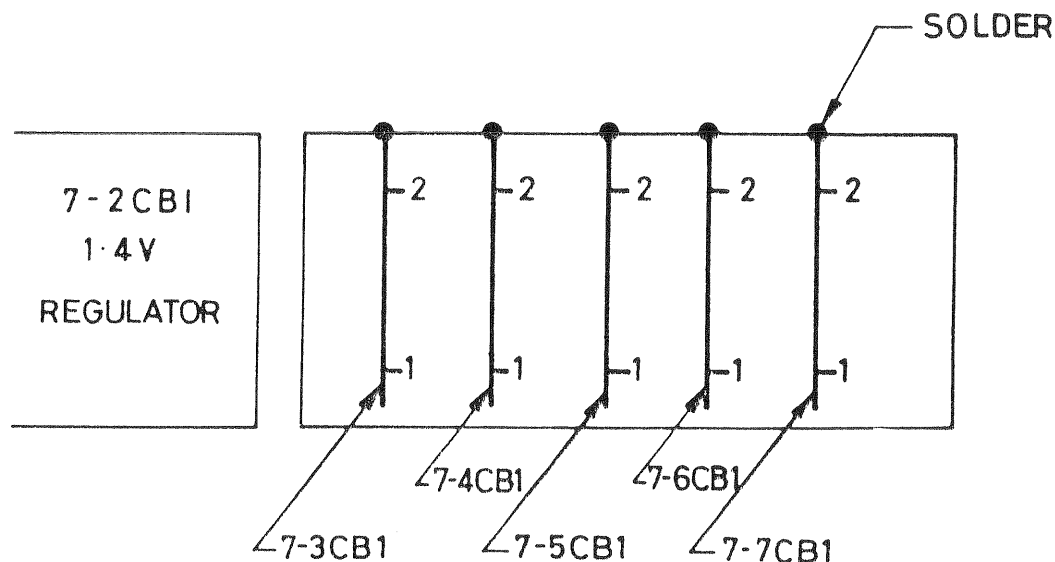

FIG 13 -- BANDPASS FILTER ASSEMBLY
d. When replacing card, cement one side and bottom tab using 8040-00-728-3088 ADHESIVE SEALING COMPOUND SILASTIC; re-solder the three interconnexions. Fig 13 indicates the correct positions.